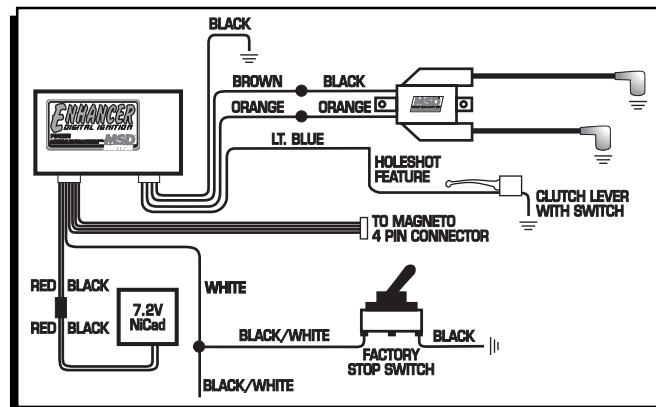

Figure 2 Connecting the MSD Kill Switch (White Wire).
- B. If you want to retain the TORS unit splice the White wire from the Enhancer into the Black/White wire (Figure 2).
8. The Light Blue wire controls the "Holeshoot" feature of the Enhancer Ignition System. When this wire is **connected to ground** the ignition will go into a low rpm rev limit. Typically this wire is connected to a clutch lever actuated switch (Figure 2).